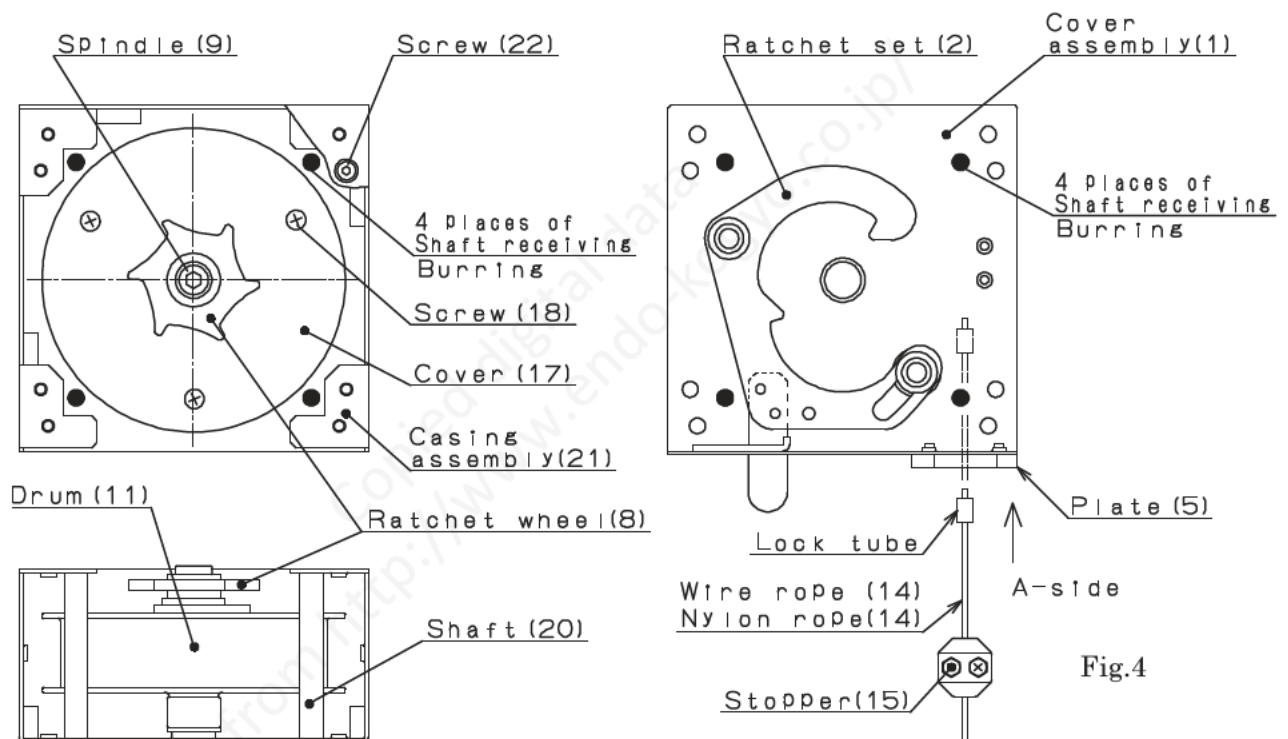
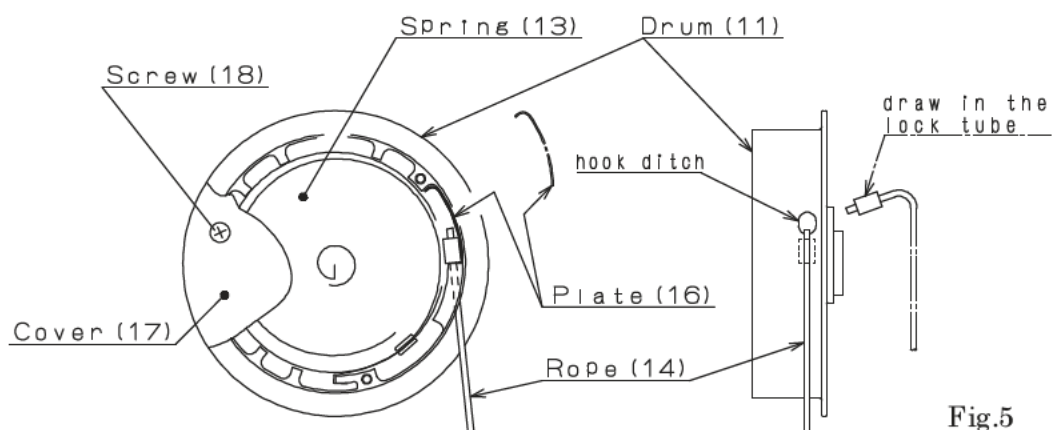

Fig.4
Fig.5
- 2) Remove Hex. Head screw (22) then remove cover (1).
- 3) Remove drum assembly (11) from casing assembly (21).
- 4) Remove Screws (18), and remove Cover (17).
- 5) Remove plate (16), and remove Rope from Drum.
- 6) Insert the lock tube of the new rope (14) from the A side of the plate (5). (see Fig.4)
- 7) Then install lock tube to the hook ditch of the drum (11) and draw in.
- 8) Fix lock tube to drum (11) by infixing plate (16). (see Fig.5)
- 10) Prevent 4 shafts (20) from deviating from the shaft receiving (burring). (See ● on Fig.4)